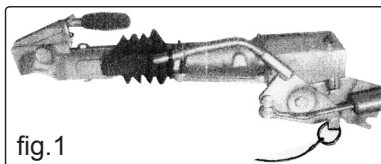

fig. 1
2.1. Attach the spring ring end of the breakaway cable to the handbrake of the caravan or trailer, the ring can be separated slightly to aid attaching the trailer. See fig.1 for an example but check with your trailer manufacturer for the correct place to attach the cable.